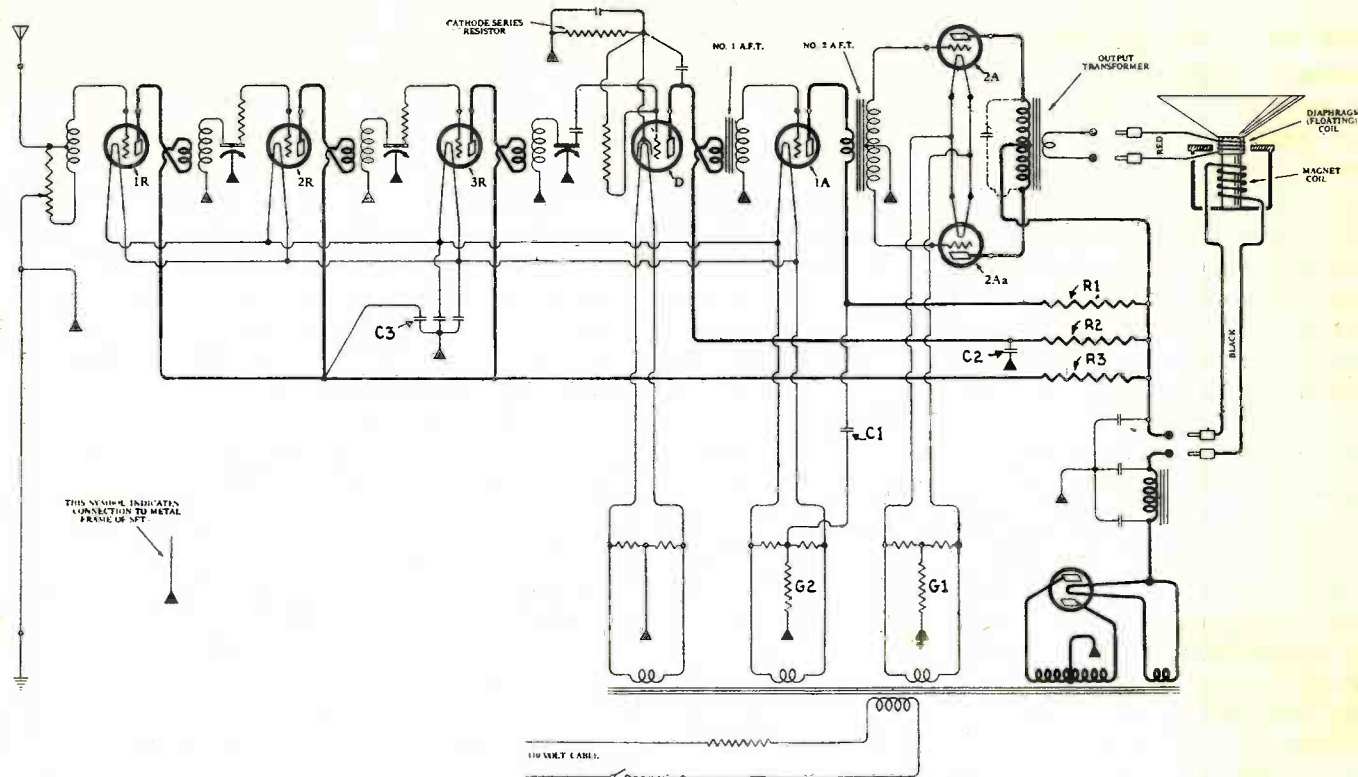
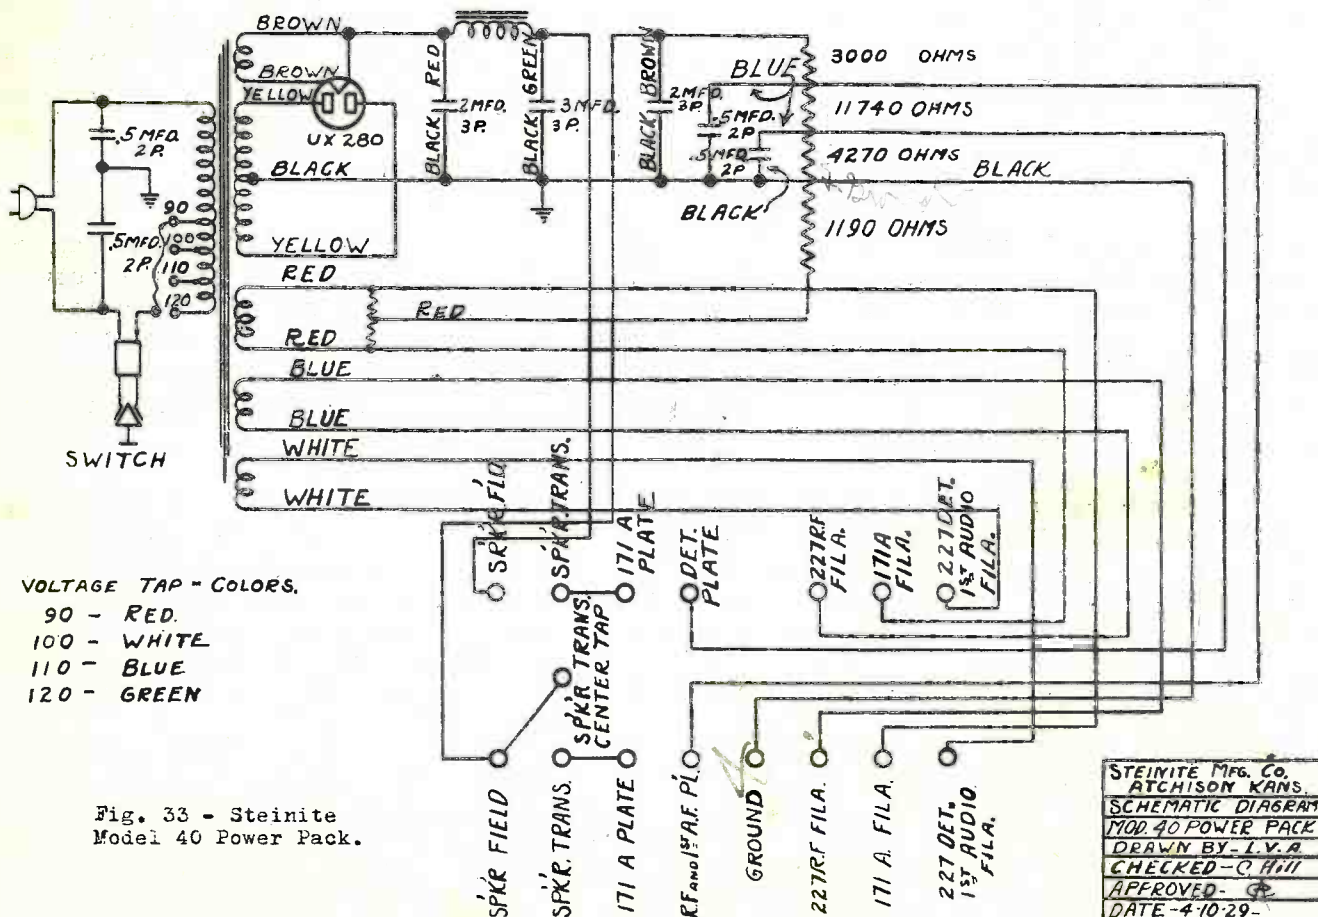
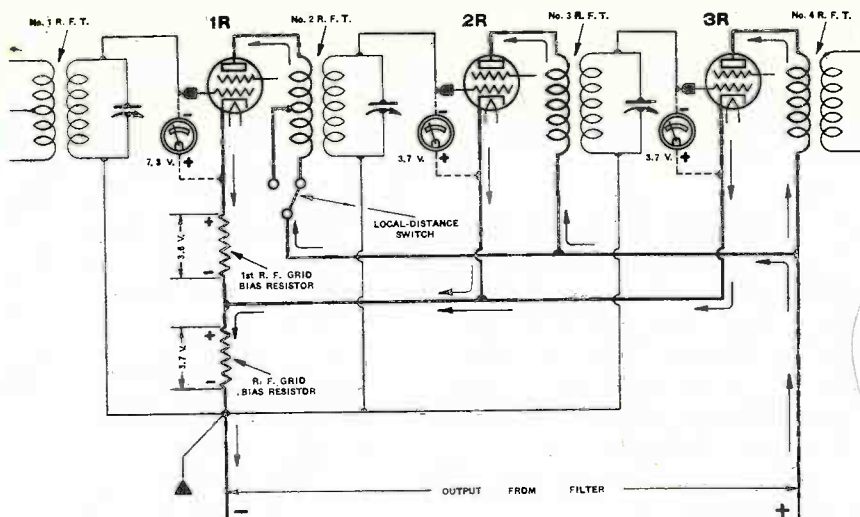

Fig. 32 - Atwater Kent Model 43 Set and Power Unit.
Fig. 33 - Steinite Model 40 Power Pack.
Fig. 34 - Circuit showing how Grid Bias Voltages are obtained in the Atwater Kent Model 60.
(18) Power Supply Systems. There are slight differences in the methods of obtaining plate and grid-bias voltages in the sets whose diagrams are included in this book. These differences, or rather methods, should be understood when making measurements, especially voltmeter readings, in order to be sure that the desired voltage supply leads will be found. Fundamentally, these power-supply systems are the same as those employed in "B" eliminators and power packs described previously. However, we shall point out a few of the variations in them, as designed by different set manufacturers.
(19) Plate-Supply Power. The main differences in plate supply appear in the voltage divider, or resistance network system. For example, Fig. 32 shows the diagram of the Atwater Kent "Model 43" set and power unit. Note that separate resistors (R1, R2 and R3) are used to obtain plate voltages for the first audio, detector, and R.F. amplifier tubes respectively. The resistances are by-passed by the condensers C1, C2 and C3.
With this arrangement, the only drain on the plate supply system is that due to the current consumption of the tubes. This method has certain advantages; if one resistor burns out it will not greatly affect the others. In this set, the field coil of the dynamic speaker serves as a filter choke; this is clearly indicated in the diagram. Series-resistance voltage dividers are more generally used, as indicated in the various diagrams of "B" eliminators and power packs; Fig. 33 shows the Steinite "Model 40" power pack which is representative of this method. In this case the voltage divider may be considered as one resistance, with taps taken off at the required voltage points. In this case the dynamic speaker's field winding is also used as a filter choke. The arrangement of chokes and condensers in the filter also varies in different sets - another reason why the diagram of the set should be studied before making measurements.
(20) Grid-Bias Voltage. The method of obtaining grid-bias voltage for the various tubes is fundamentally the same in all electric sets. Use is made of the voltage drop caused by the plate current of the tube flowing through a resistance. Knowing the plate current of the particular tube, the resistance can be calculated to give the desired drop. The "C" bias resistor is connected between the tube filament (or the center-tapped resistance connected across the filament, in the case of the '26 tube or power tubes; or the cathode in heater-type tubes) and the extreme negative end of the power-supply system. This is shown in the simplified diagram of Fig. 34. In the diagram of Fig. 32 the bias voltage for the power tubes is obtained by the drop across the grid resistance G1; that for the first audio and the R.F. stages is obtained by means of the resistance G2. In the diagram of Fig. 33 the 1190-ohm resistance furnishes the grid bias for the '71A power stage. These bias resistors are sometimes in the power pack and sometimes in the set (or in both) and they should be located before taking grid voltage measurements; although the bias voltage may be obtained by connecting the voltmeter between the grid terminal of the tube and the center-tap in the filament circuit of the same tube, or the cathode in heater-type tubes. An